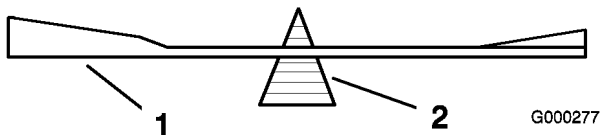
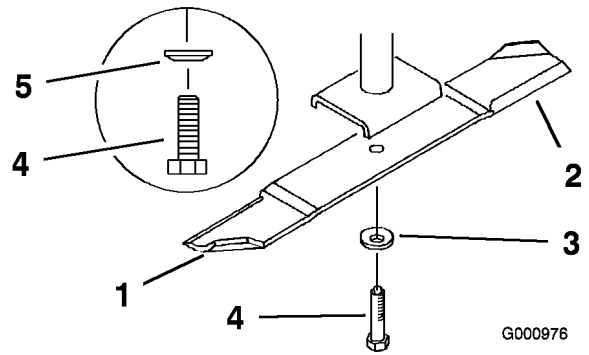

Figure 70
Figure 71
2. Remove the blade bolt, spring disk and blade from the spindle shaft (Figure 71).
2. Check the balance of the blade by putting it on a blade balancer (Figure 70). If the blade stays in a horizontal position, the blade is balanced and can be used. If the blade is not balanced, file some metal off the end of the sail area only (Figure 71). Repeat this procedure until the blade is balanced.
1. Install the blade onto the spindle shaft (Figure 71).
2. Install the spring disk and blade bolt. The spring disk cone must be installed toward the bolt head (Figure 71).